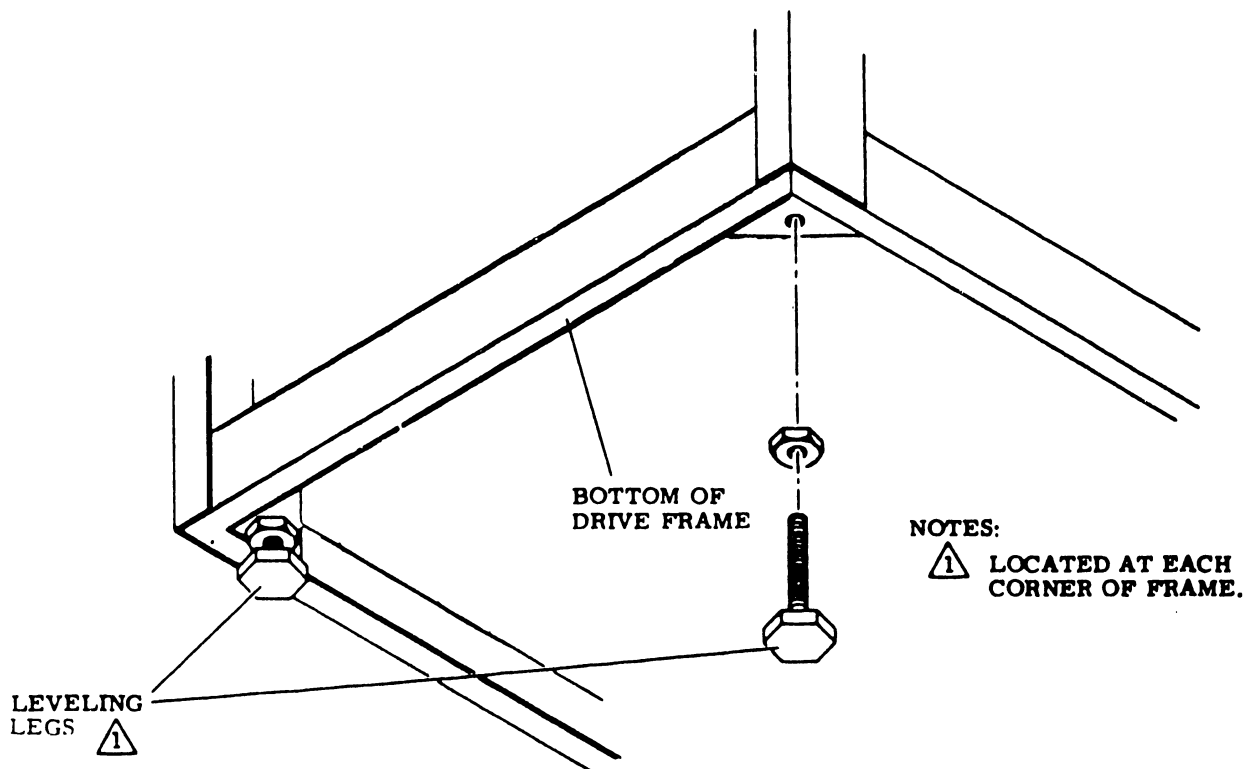

FIGURE 4-81 TAPE DRIVE LEVELING
- B. Turn the leveling pads down until they support the weight of the tape drive. See Figure 4-81.